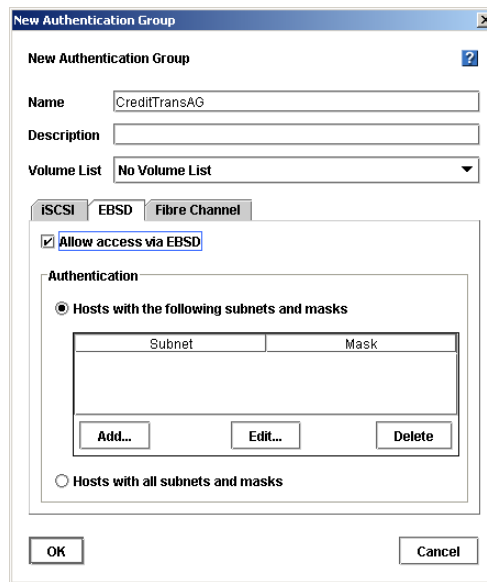

Figure 199. Configuring EBSD for New Authentication Group
1. On the EBSD tab, shown in Figure 199, select the check box to allow access via EBSD.